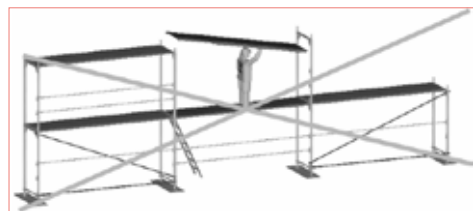

Fig. 2.6A
**WARNING: Do not place platforms on frames that are not inter-connected with railings (Fig. 2.6A). It may result in an accident and scaffolding elements damage.**